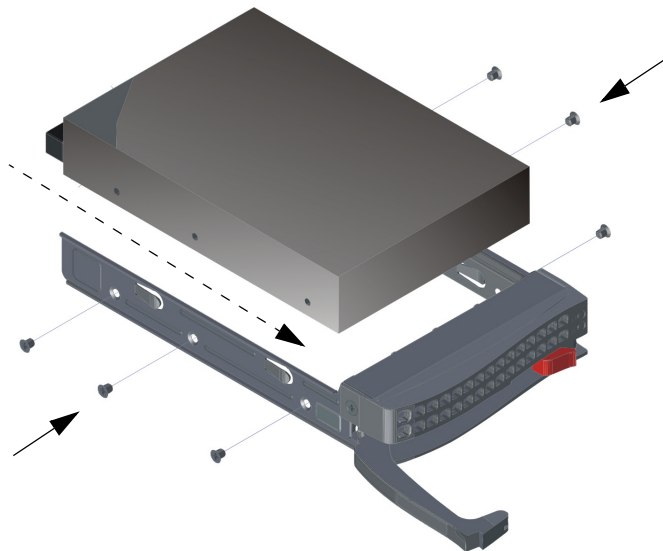

Figure 4-5 Installing the Replacement Drive in the DSS200 Drive Tray
6. Slide the replacement drive (Dolby Part Number 8702640) into the tray with the printed circuit board facing down, as shown in Figure 4-5.